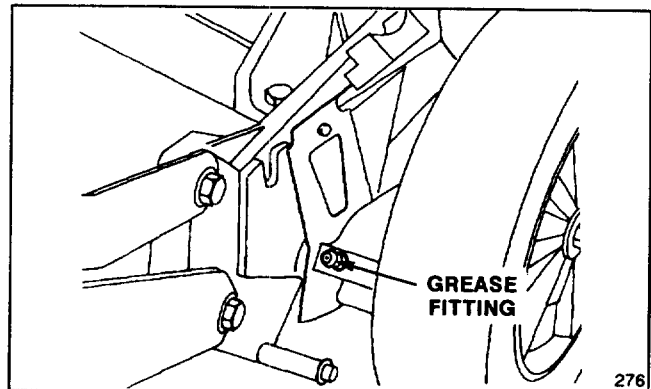

Figure 24
2. Move rear wheel height-of-cut levers to "C" setting. Wipe grease fittings with clean rag (Fig. 24). Install grease gun onto fitting and gently apply 2 or 3 pumps of #2 Multi-Purpose Lithium Base Grease. Excess pressure may damage seals.